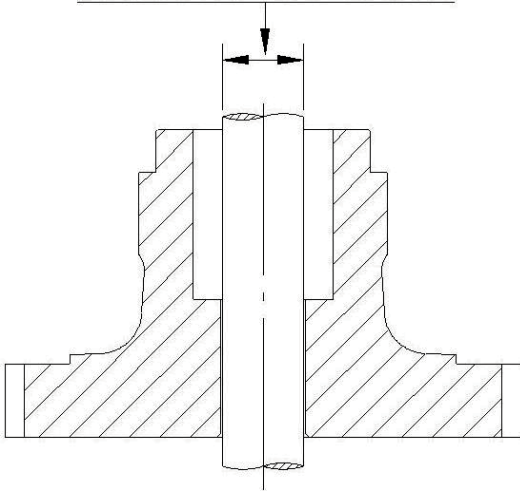

Figure 5 - Detail of Stuffing Box + Stem
- 1 – Involve the valve stem with the gasket and cut the first ring on the stem. Later, use a wooden board as a base and cut each additional ring desired using the ring cut as a measure (see Figures 5 and 6).